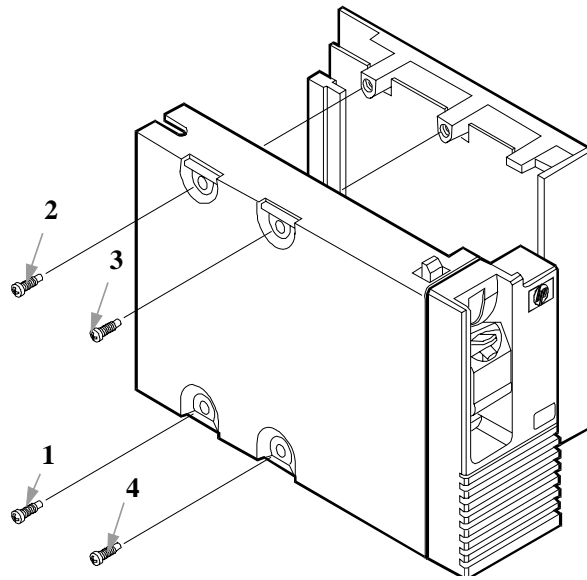

Figure 1-1. Hot Swap Hard Disk Drive and Tray Installation
2. Attach the drive to the hot swap tray with the screws provided in the order shown in Figure 1-1.